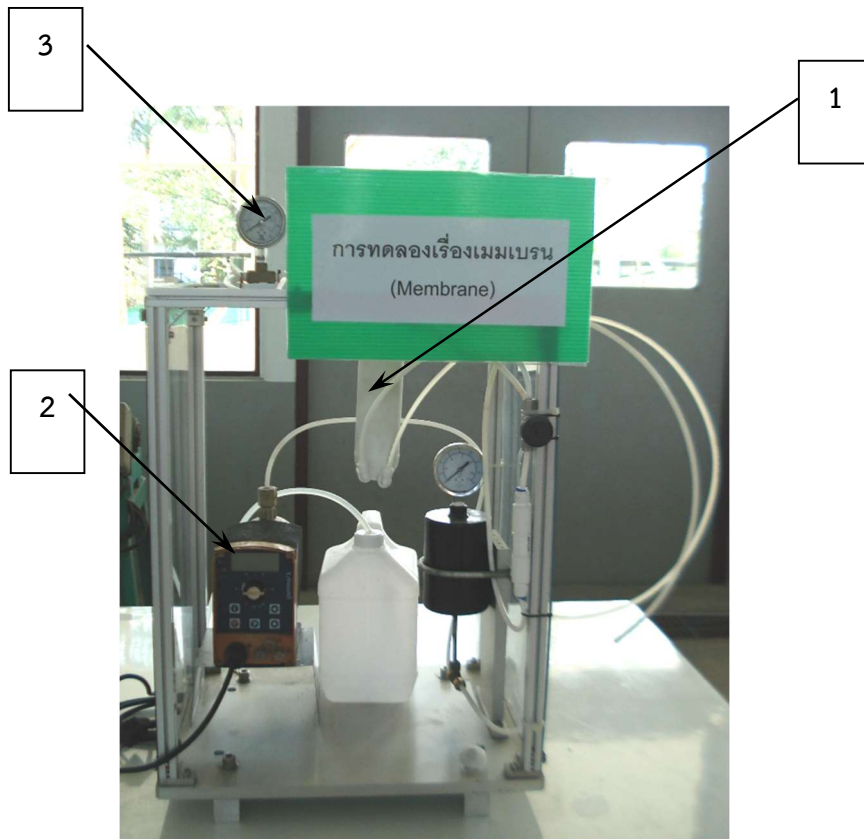

Figure 4 Experimental Setup for Membrane Separation
1. RO membrane (Figure 4, no. 1)
2. Diaphragm pump (Figure 4, no. 2)
3. Pressure gauge (Figure 4, no. 3)